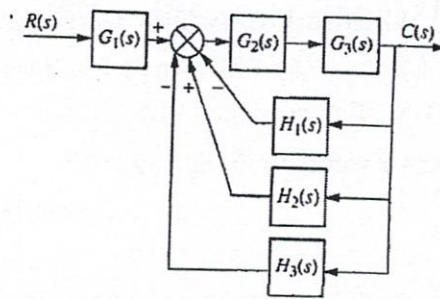

Fig. 2: Block diagram of a system
Block reduction technique and Mason's rule are used to find single transfer function of a system having multiple subsystems for design and analysis. Fig. 2 shows the block diagram of a system.
- 2) a) Reduce the block diagram of Fig. 2 to a single transfer function. And, CO2 C4 5
convert the block diagram of Fig. 2 to a signal flow graph.